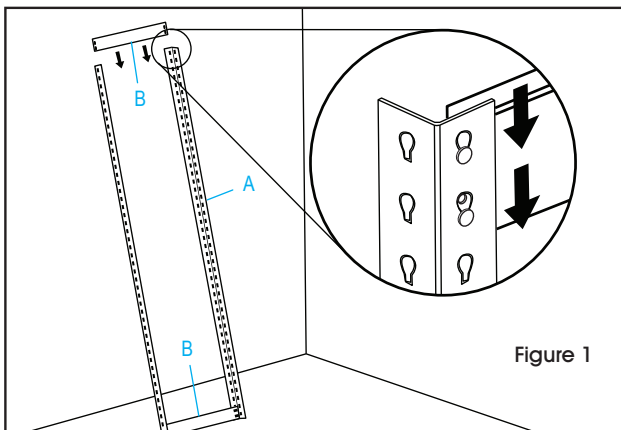

Figure 1
1. Connect two upright posts (A) by inserting a side support piece (B) at the bottom and top of the posts. (See Figure 1)
2. Repeat step one for the other two upright posts (A).